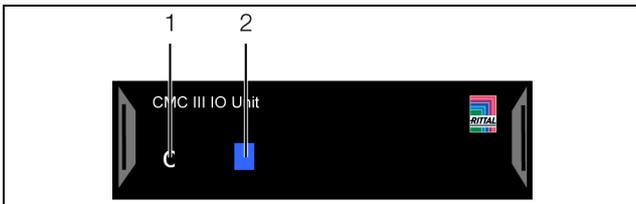
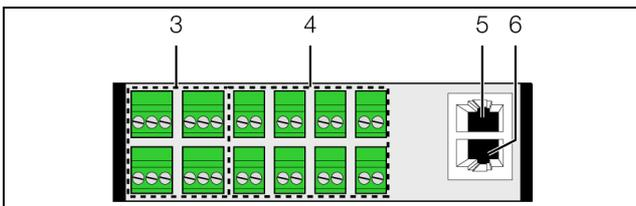

Fig. 11: Front of the I/O unit
Fig. 12: Rear of the I/O unit
A multi-LED for the status display is integrated into the front of the I/O unit (fig. 11, item 2). Further LEDs are located at the rear on the CAN bus connection (fig. 12, item 5 and item 6).